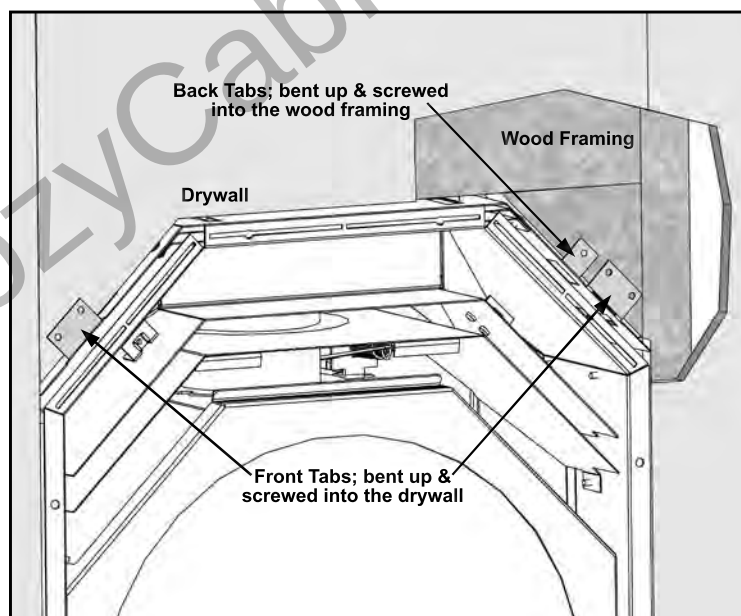
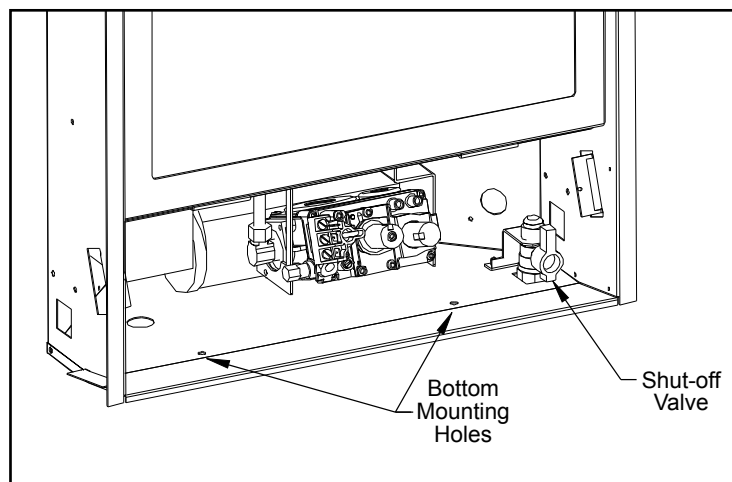

Figure 18. Top Mounting brackets.
Figure 19. Bottom Mounting Holes.
The Retreat can be secured to the framing and the flooring. At either side of the top there are two (2) brackets with holes for screws or nails (Figure 18); the back tabs are to mount to the wood framing and the front ones are to mount to the drywall. At the bottom there are two (2) mounting holes in the unit base below the firebox, which allows for screws or nails to mount to the floor (Figure 19).